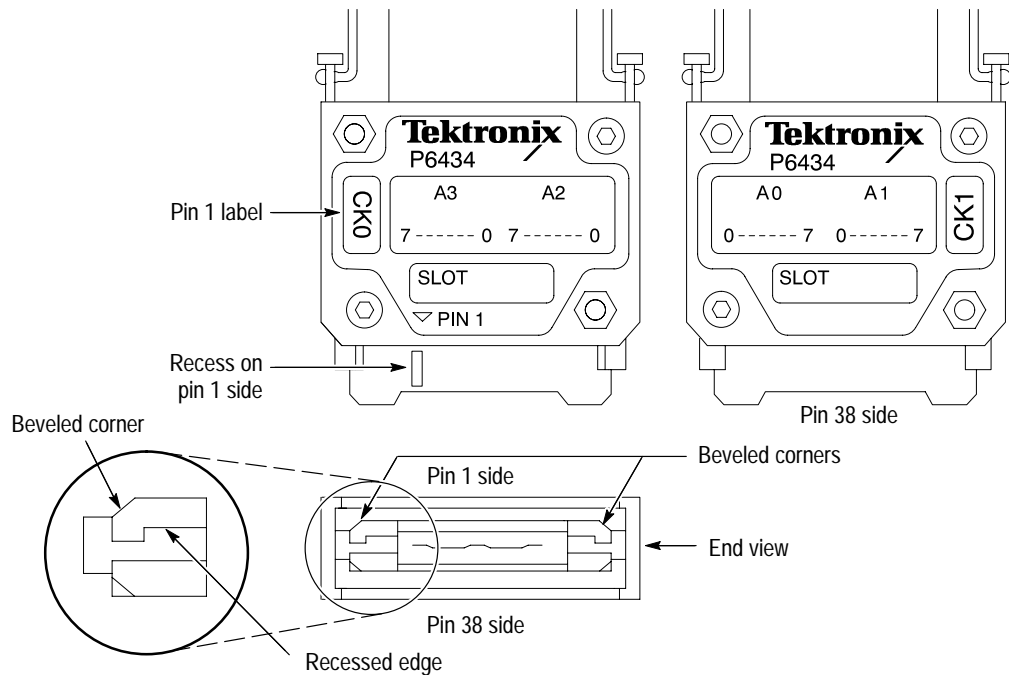

Figure 2: Applying labels
1. Locate the small pin 1 recess on the probe tip and apply a pin 1 label on that side. See Figure 2.